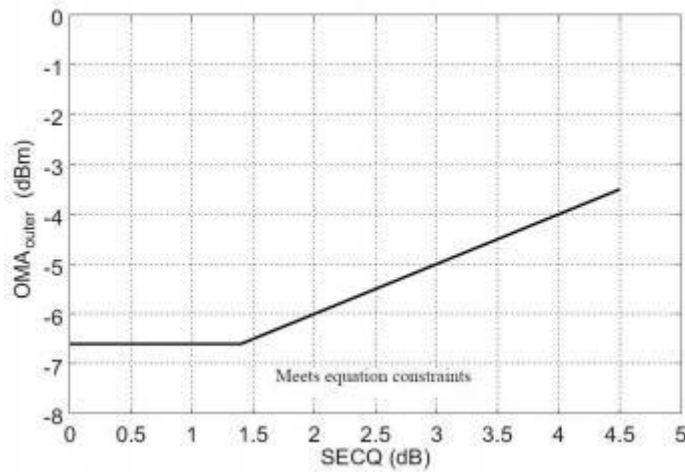

Figure 5. RX sensitivity
9. Receiver sensitivity is considered a normative requirement. RX sensitivity is defined for a transmitter with a value of SECQ up to 4.5dB. For transmitter with SECQ different from 4.5dB, limit is reported as per figure 5